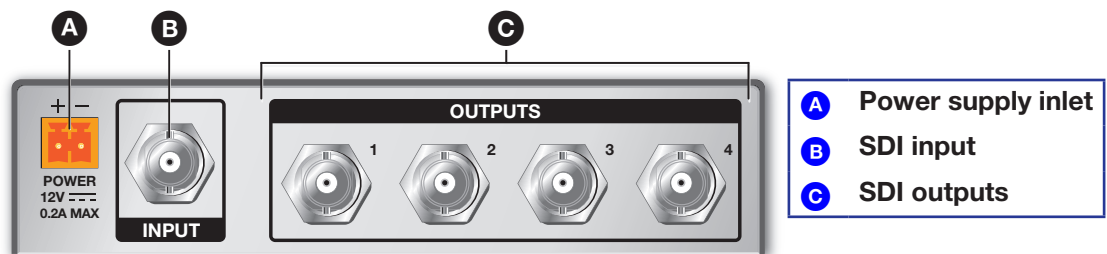

Figure 2. Rear Panel Connectors
- A** **Power supply inlet** (see **figure 2** on the previous page) — Connect the provided 12 VDC, 0.5 A power supply to the rear panel power supply socket.
- B SDI input** — Connect the input source to the rear panel female BNC connector (see figure 2 on page 3).